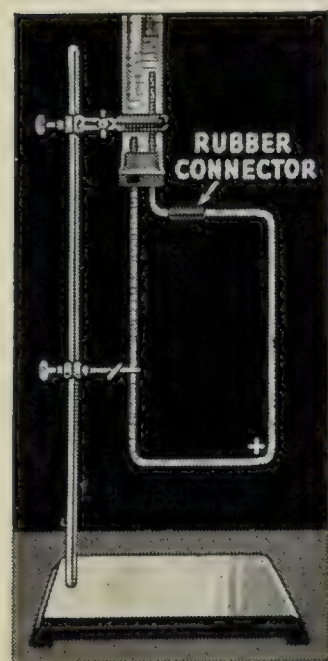

FIG. 259
**Experiment 64. HOW IS THE WATER IN THE STORAGE TANK HEATED?** (a) Obtain a straight glass tubing three-eighths of an inch in diameter and about three feet long. Bend as shown in Figure 259. (Straight tubes connected with rubber tubing can be used if desired.) Obtain a bottle with the bottom cut off or a straight lamp chimney, fit a two-holed cork in one end, and arrange the apparatus as shown. Drop some sawdust thoroughly soaked in water into the tubes and also into the bottle. Fill the apparatus with water.